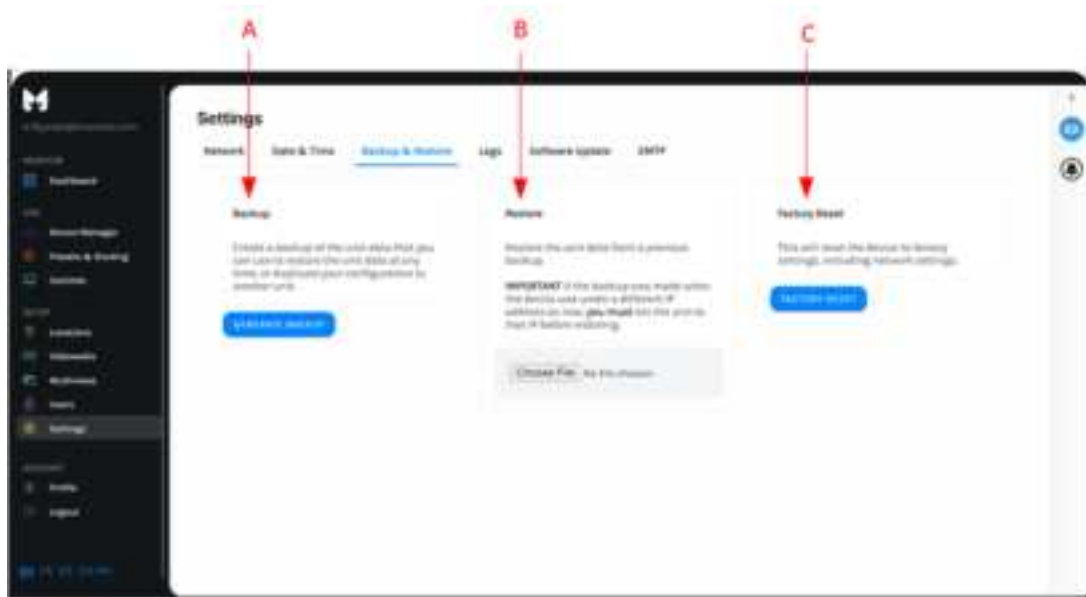

Figure 55
3. Backup & Restore: On this page the user will be able to: A.) create a backup of the unit data that you can use to restore the unit data at any time, or duplicate your configuration to another unit, B.) restore the unit data from a previous backup, and C.) reset the device to factory settings, including network settings. Figure 55